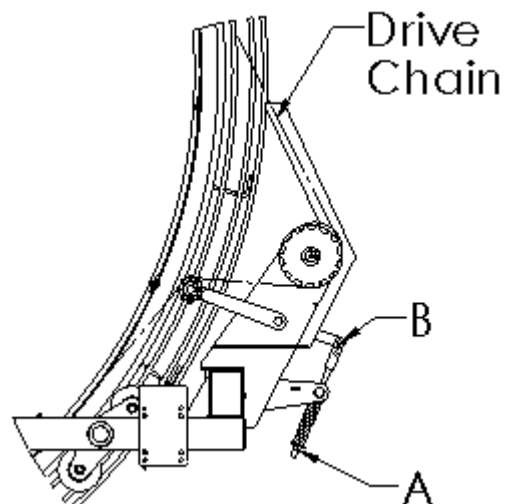

Figure 7-41: Wheel Drive Chain Tension Adjustment
2. Tighten nut (A), shown in Figure 7-41, until at desired chain tension.